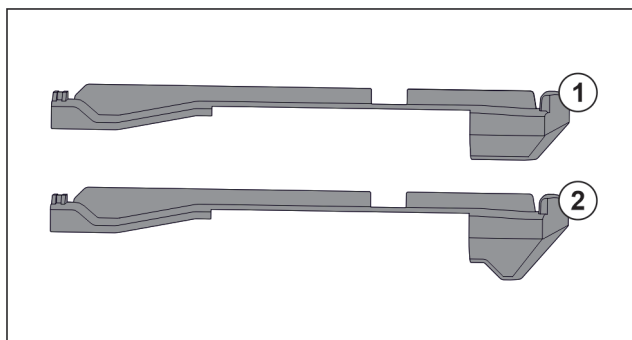

Fig. 78 Comparing attachments
There are two different attachments in the appliance. The attachment above the lowest drawer Fig. 78 (2) has a three-cornered edge. All other attachments Fig. 78 (1) have a straight edge.
- Fit attachment Fig. 78 (2) with the three-cornered edge above the lowest drawer.
- Fit attachment Fig. 78 (1) with straight edge in all other positions.